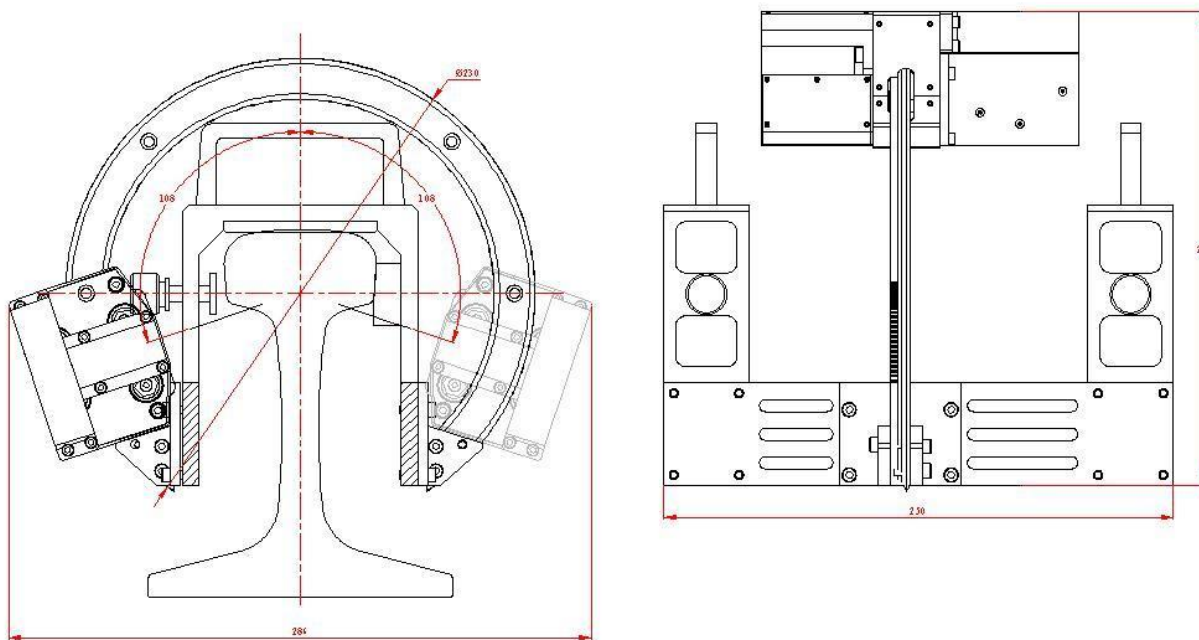

Figure 3
Dimensions of laser scanning, mm	see Fig.3
- (1) Indicator of Bluetooth connection (blue LED)
- (2) Indicator of turn ON (red LED)
- (3) Support for mounting of the device on the rail
- (4) Input window of laser sensor
- (5) Output window of laser sensor
- Overall dimensions of scanning module are shown in figure 3.